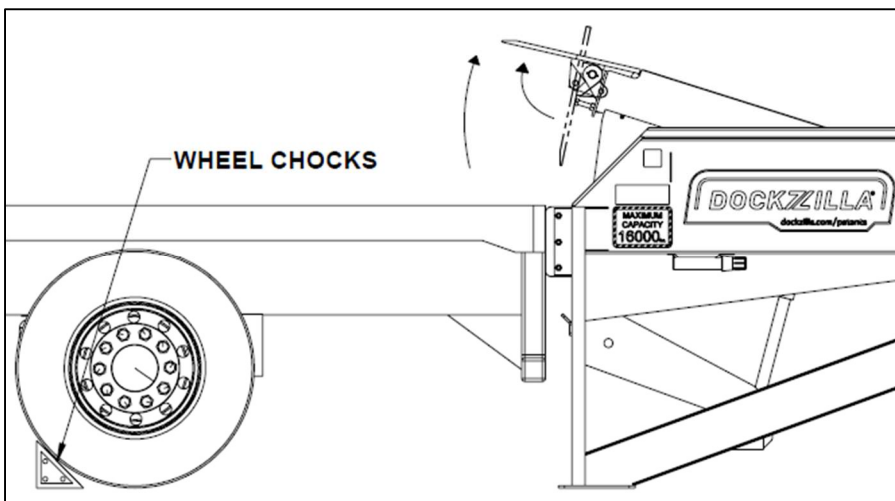

Figure 8: Activating the Leveler
2. Press the RAISE button until the leveler is fully raised and the lip is fully extended (Figure 8).